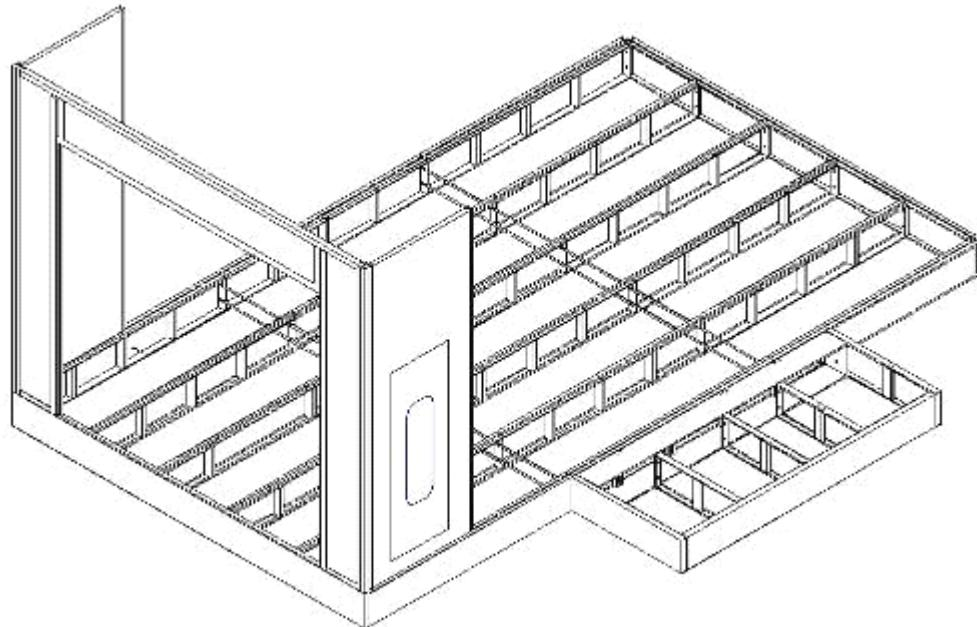

Fig. 3.7
3) Take the Front door frame on to the front panel of the basement by two workers, then one workers hold the door frame and another worker take the safe door and one wall panel on aother side, connect them to the door frame with nails. At last take four bolt M8*20 to connect the bottom of the door frame and the front panel of the basement. shown in Fig.3.7. So the door frame can be stand steadily.